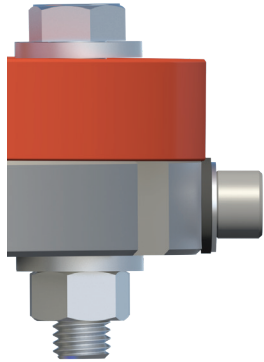

Figure 38
3.2.10) Lock the valve cartridge assembly in place by cross tightening the 4 Allen-head completion pins. Tighten each until the head of the Allen-head completion pin bottoms out against the flange as seen in Figure 38.